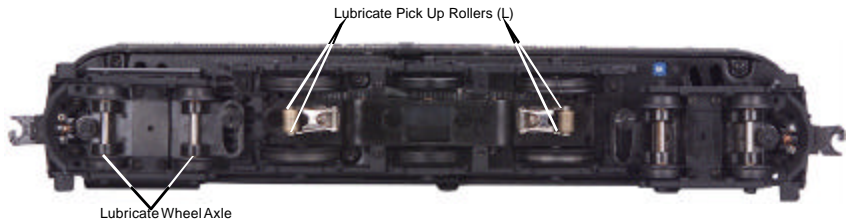
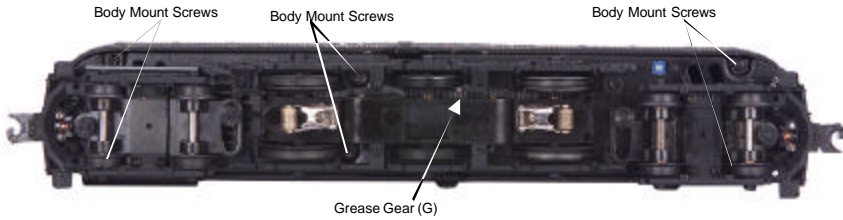

Figure 5. Lubrication Points on the Locomotive
Figure 6. Location of Body Mount Screws and Greasing Points on the Locomotive
Although the engine was lubricated at the factory, it is important that you lubricate the chassis before operation. Lightly grease the outside idler and drive gears (marked “G” in Fig. 6 on page 11) to prevent them from squeaking. Use light household oil and follow the lubrication points marked “L” in Fig. 5 on pg. 10. Do not over-oil. Use only a drop or two on each pivot point.
You should regularly lubricate the engine to prevent it from squeaking. Use light household oil and follow the lubrication points marked “L” in Fig. 5. Do not over-oil. Use only a drop or two on each pivot point.
1. To access the gear box, remove the cab from the chassis by unscrewing the chassis screws as seen in Figure 6 and lifting the cab from the chassis.
Lubricate the outside truck block idler and drive gears with grease. Use the diagram shown in Figure 6 below as a guide and add grease to the points marked with a “G.”